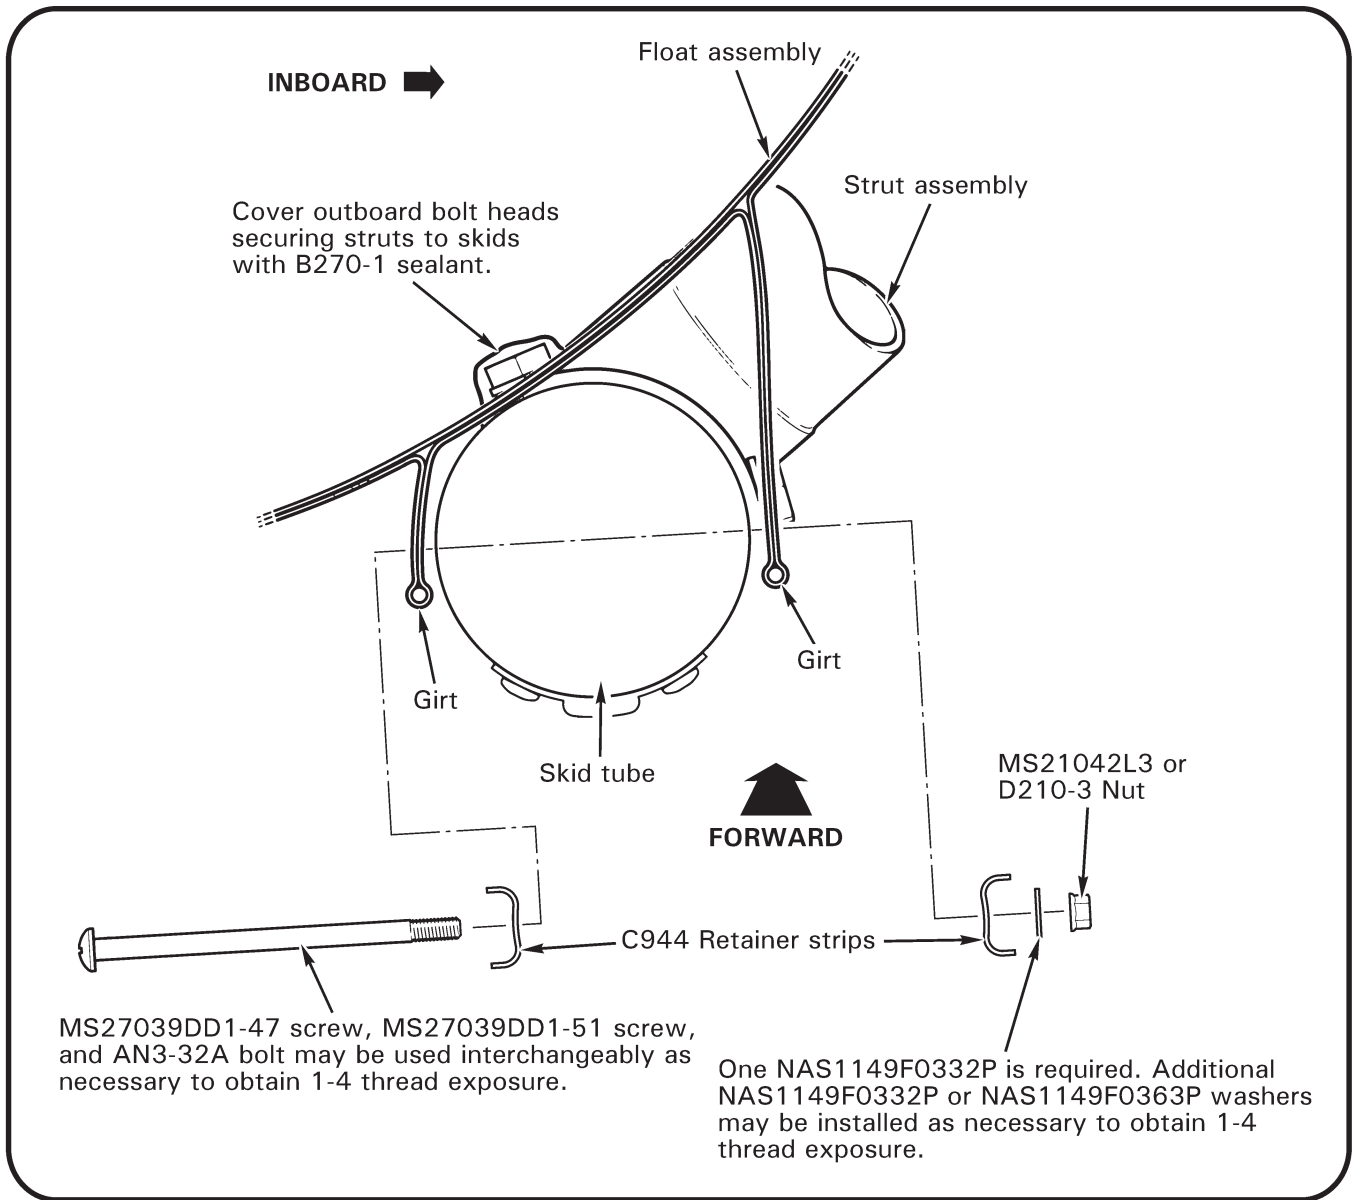
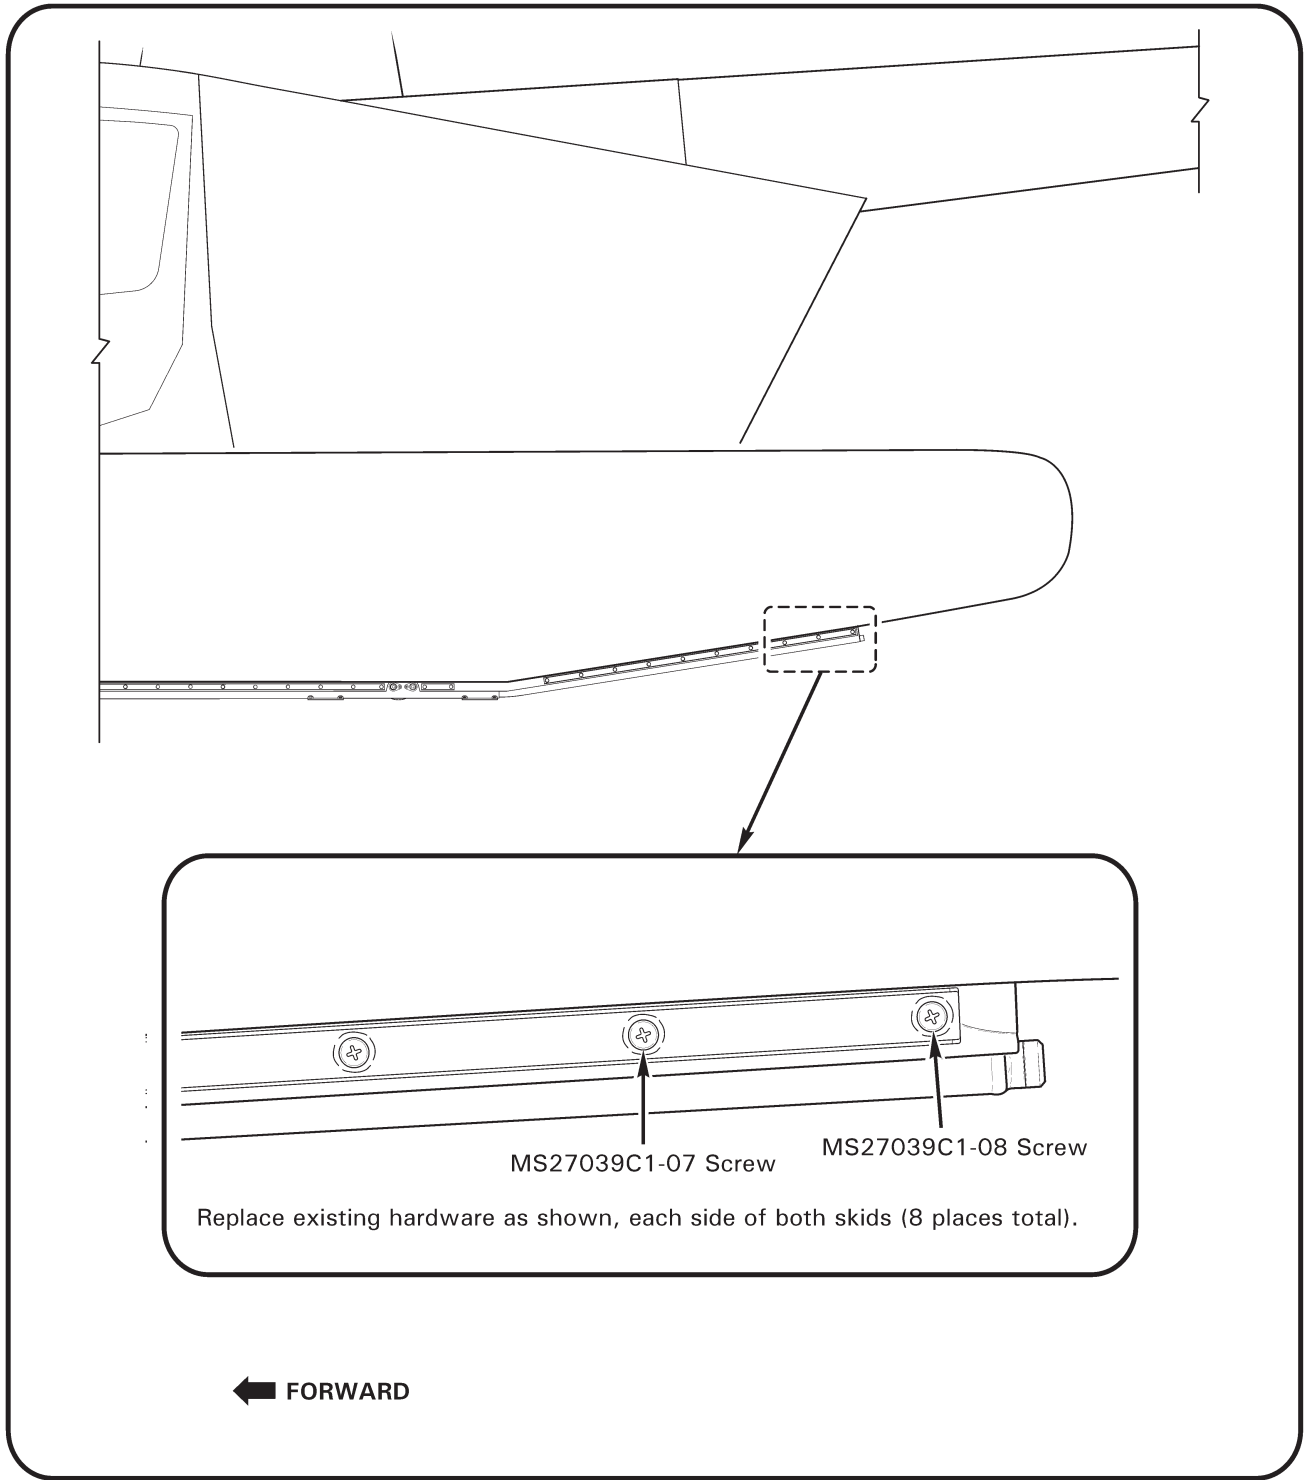

FIGURE 1
FIGURE 2
7. Position skid shoe and loosely install (4) A142-1 screws (provided). Install strut attachment hardware. Standard torque bolts per R44 MM § 1.320. Secure A142-1 skid shoe screws.
11. Refer to Figure 1. Align holes in C944 retainer strips, float covers, float girts, and skid extension. Select installation hardware as required to achieve 1-4 threads exposed beyond nut; replace two aft-most installation hardware with (2) MS27039C1-08 screws and (2) MS27039C1-07 screws per Figure 2. Seal under head & nut, and around MS27039DD1-47 or -51 screw or AN3-32A bolt between girt & skid tube with B270-1 sealant. Special torque hardware to 25 in.-lb wet with A257-9 anti-seize (threads only).